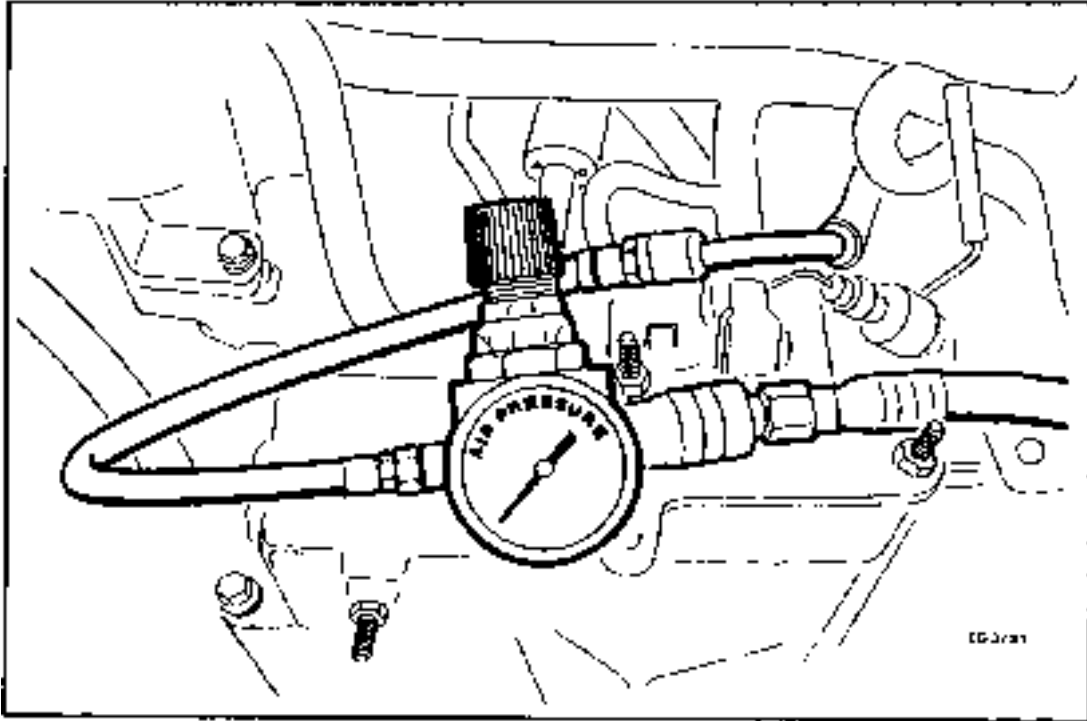

Figure 2.2-13. -ICP Leakage Test
3. Connect a regulated air supply Figure 2.2-13. to the high pressure supply oil line removed in the previous step.